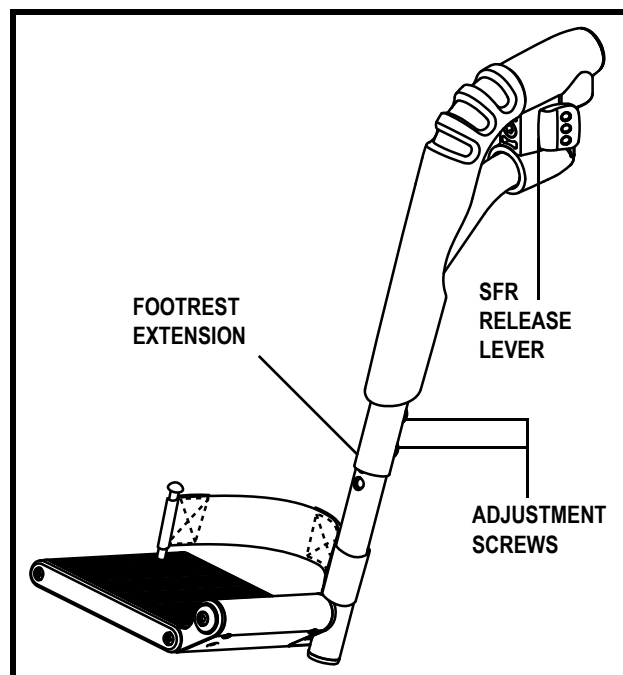

Figure 23. Swing-away Footrests
1. Remove the adjustment screw(s) from the footrest extension. **See figure 23.**